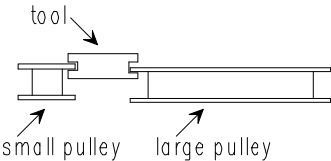

Figure 3 (side view)
- a. With the pump assembly in the same orientation as above and with the motor housing mounting bolts loosened slightly, place the tool between the small and large pulleys, with the walls of each pulley sliding into the groove on each side of the tool. The grooves are not symmetrically cut, so the plunger of the tool should be to the right (see Figures 3 and 4).